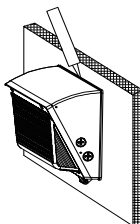

Fig.12
8. Fill the silicone sealant into the gap between fixture and its installation wall-surface (silicone sealant must be prepared by yourself) (see fig 12)